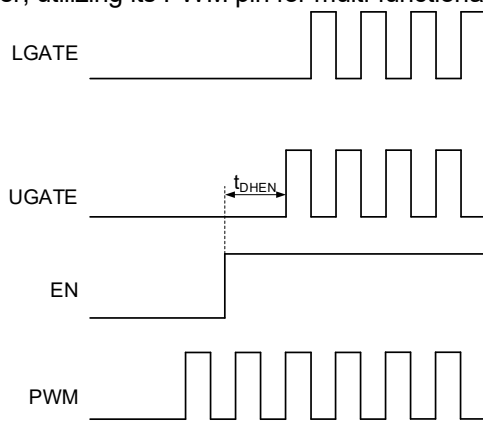

Figure 4. Enable Control
The enable (EN) pin controls both the state of the PWM pin and the output of the MOSFET gate drivers. When a logic low signal is applied to EN, it disables the gate drivers, keeping both UGATE and LGATE low, while the PWM pin will be in a high-impedance state. On the other hand, a logic high input to EN enables gate driver activation after delay time (t_{DHEN}) illustrated in Figure 4. During this delay time, the PWM pin remains in a high-impedance state, with UGATE and LGATE outputs held low. Moreover, the internal control circuit can't respond to the PWM input voltage. Once t_{DHEN} finishes, both UGATE and LGATE start responding to the PWM input. This design is specifically for SGM's PWM controller, utilizing its PWM pin for multi-functional pin.
In a floating state, an internal bias circuit keeps the PWM pin voltage at 1.6V. During t_{DHEN} (refer to Figure 4), both UGATE and LGATE remain low. The PWM pin stays in a high-impedance state, so any input to the PWM is disregarded.